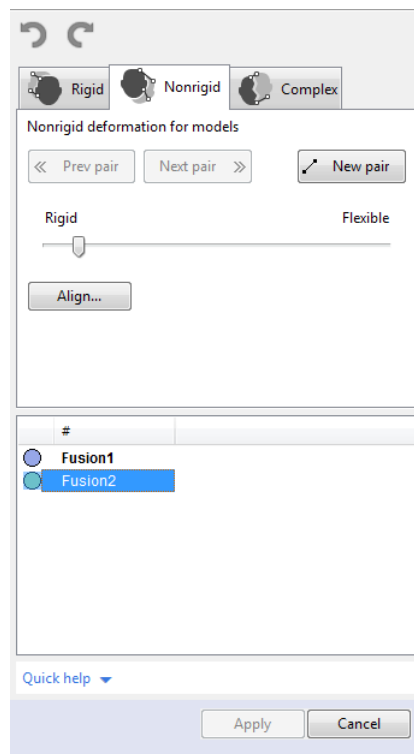

Figure 74: Align panel: *Nonrigid* tab.
1. Make sure the *Nonrigid* tab is selected (see Figure 74).